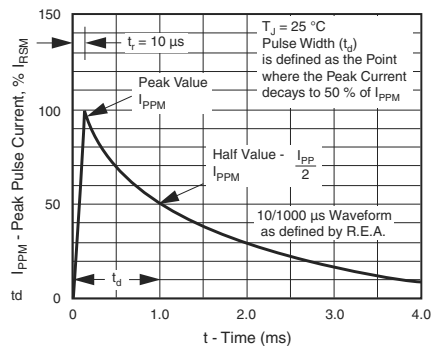
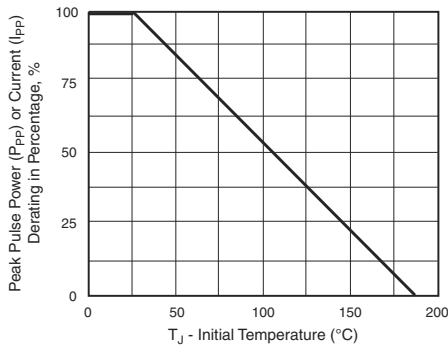

Figure 3. Pulse Waveform
Figure 2. Pulse Power or Current vs. Initial Junction Temperature
(2) Surge current waveform per fig. 3 and derated per fig. 2